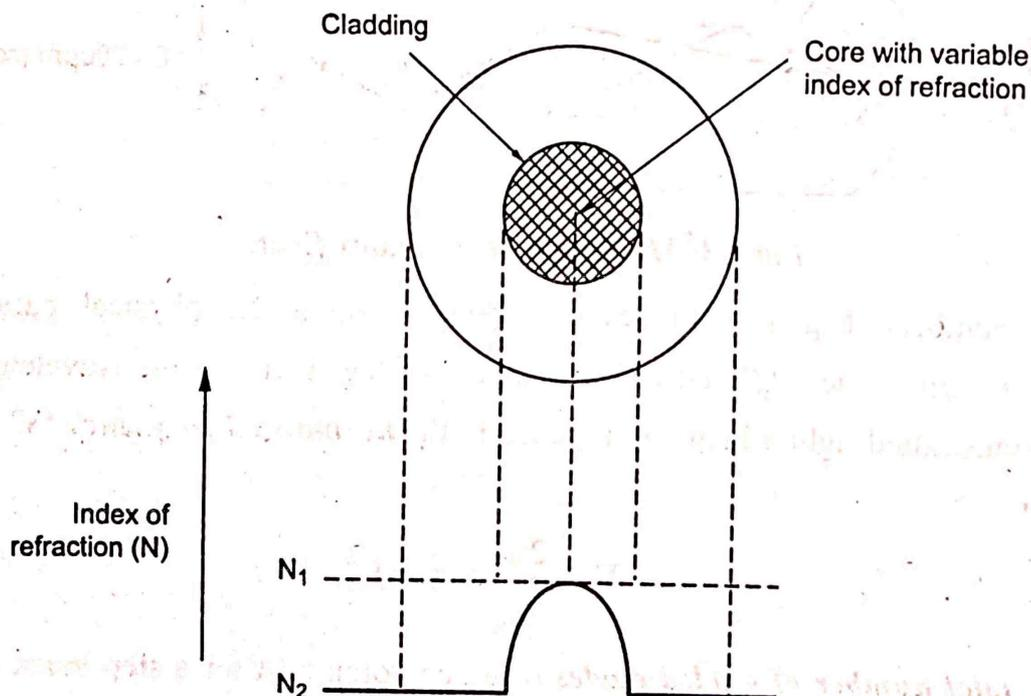

Fig 3.4 Graded – index cable cross section
- ♣ In the graded – index fiber design, the core refractive index $n(r)$ decreases continuously with increasing radial distance r from the center (axis) of the fiber, but is generally constant in the cladding as shown in Fig 3.4.